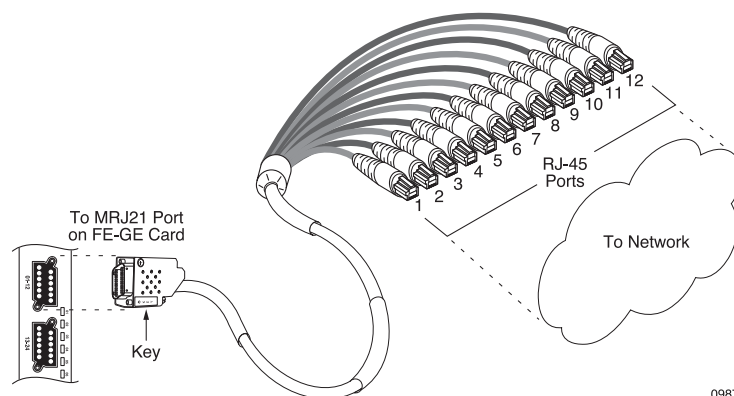

Figure 20 Connecting an FE–GE Breakout Cable
- b Attach the breakout cable to the right-most connector to be cabled on an FE–GE line card. Position the connector so that the incised label “KEY” on the connector is on the bottom side of the connector as you face the chassis; see Figure 20.